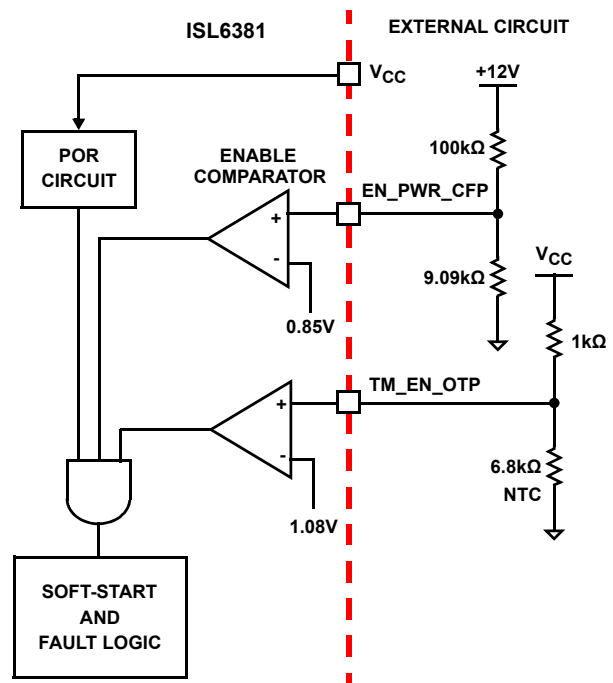

FIGURE 14. POWER SEQUENCING USING THRESHOLD-SENSITIVE ENABLE (EN) FUNCTION
2. The ISL6381 features an enable input (EN_PWR_CFP) for power sequencing between the controller bias voltage and another voltage rail. The enable comparator holds the ISL6381 in shutdown until the voltage at EN_PWR rises above 0.85V. The enable comparator has about 100mV of hysteresis to prevent bounce. It is important that the drivers reach their POR level before the ISL6381 becomes enabled. The schematic in Figure 14 demonstrates sequencing the ISL6381 with the ISL66xx family of Intersil MOSFET drivers.